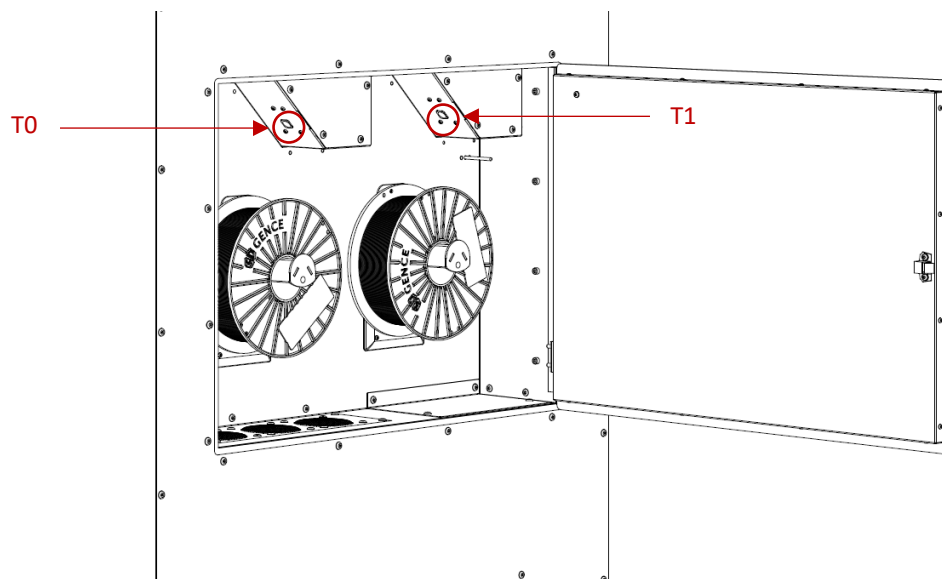

Fig. 107 Inlet opening of T0 and T1 filament feed mechanism
11. Point the nozzle of the compressed air gun at the input hole of the T0 or T1 filament feed mechanism (Fig. 107), depending on which feed system you want to clean. Keep spraying until all residual filament has been removed from the feed system.